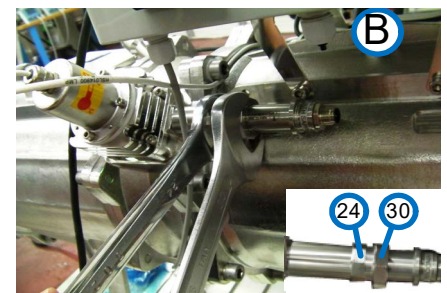

Figure 10-29: Loosening nuts B (Generic View)
- Step 2.** Grip the Sensor casing with wrenches # 24 and # 30, as shown in view B, **Figure 10-29**. The inset shows the wrench #24 in the left hand gripping the casing's left band and wrench #30 in the right hand gripping the casing's large nut on the right.